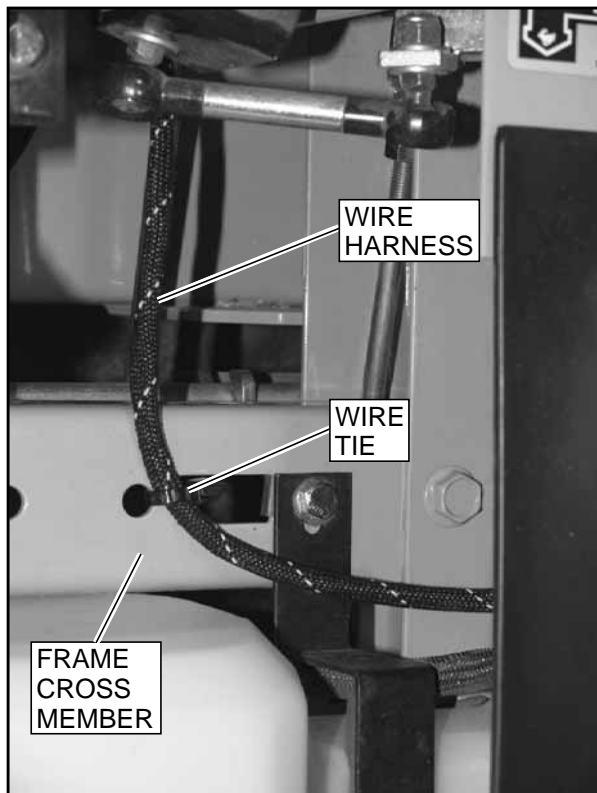

FIG. 5
10. Secure the harness to the mower frame cross member and to the brake bell crank mount, using wire ties (Fig. 5). Leave the wire ties loose.